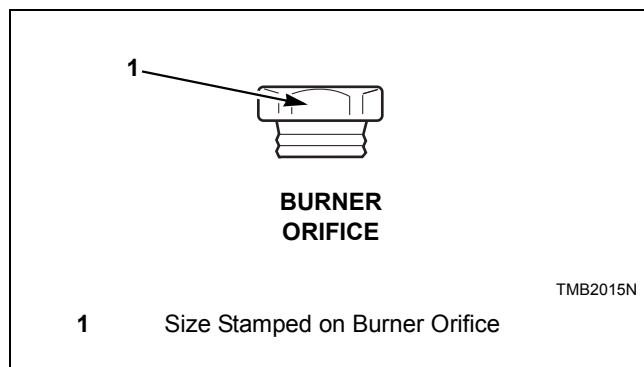

Figure 8
3. Install the new, correct burner orifices. Refer to *Figure 8*. Torque each to 9 – 10 Nm.